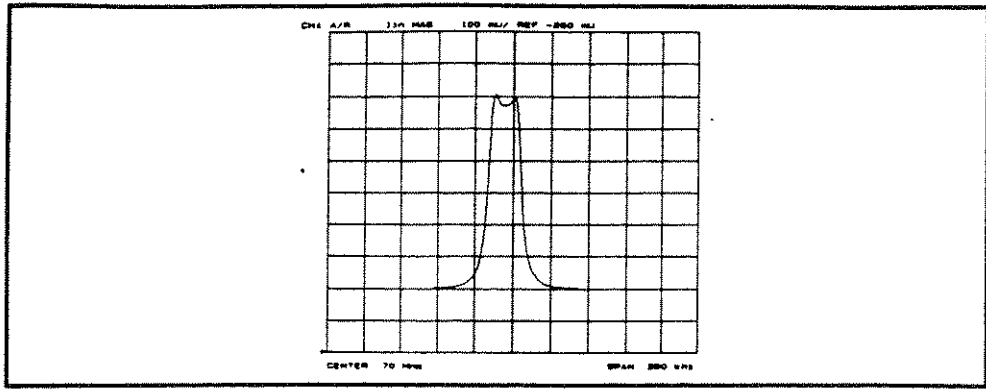

Figure 9-10. Linear Magnitude Format
**LIN MAG** (LINM) displays the linear magnitude format (Figure 9-10). This is a Cartesian format used for unitless measurements such as reflection coefficient magnitude  $\rho$  or transmission coefficient magnitude  $\tau$ , and for linear measurement units. It is used for display of conversion parameters.